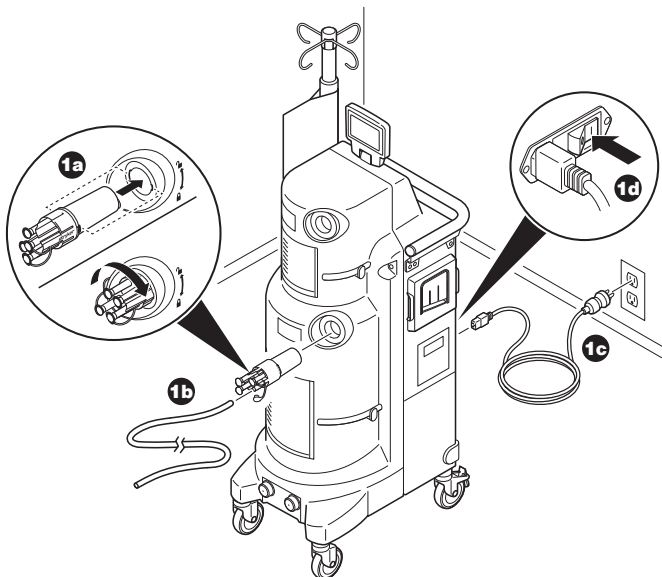

Figure 9 To Prepare the Rover
1. To Prepare the Rover (Figures 9, 10, 11, and 12)